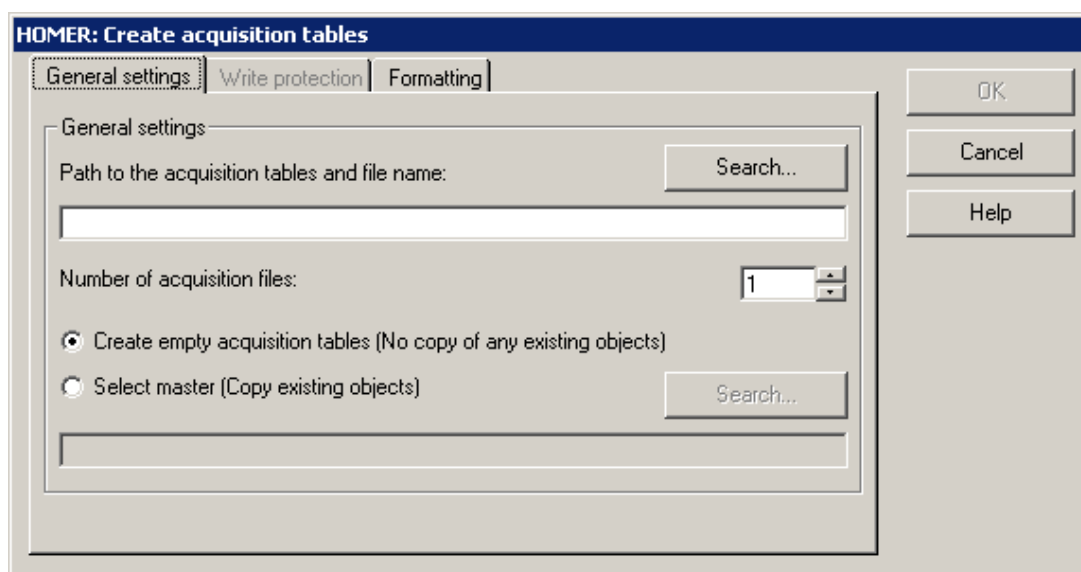

Figure 90: Create acquisition table - General settings
If you want to create acquisition tables, select in the "File" menu the **"Create acquisition tables"** menu item. The "HOMER: Acquisition tables" window (see fig. 90) will then be displayed, in which you will carry out the following described settings and then create the tables by clicking on the OK button.
**Hint:** The options described above are only available if the setting "Select master (copy existing objects)" has been selected in the "General settings" (see fig. 90).